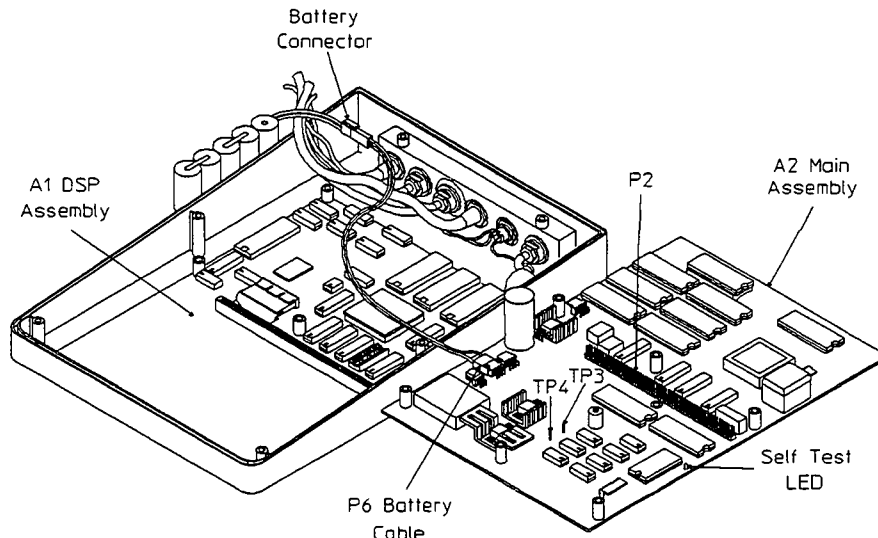

Figure 9-1.
5. Connect the battery cable (P6) to the A2 Main assembly as shown in figure 9-1. Short TP4 "PWRUP" to TP3 "GND" to turn on the A2 Main assembly. Watch the self test LED for 20 seconds and listen for beeps. It may flash once at first, then blink and beep. Count the blinks/beeps to identify the failure.